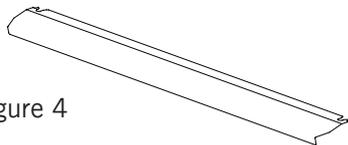

Figure 4
1. A safety panel is designed to protect control panel and the buttons when the oven is in Grill mode (Figure 4)